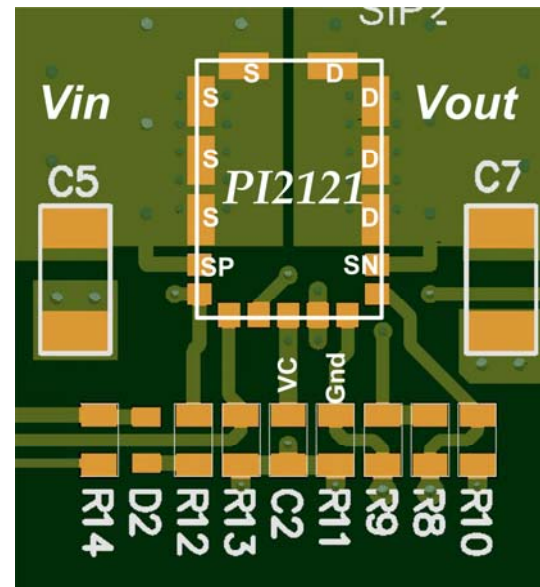

Figure 24: PI2121 layout recommendation
Use the following general guidelines when designing printed circuit boards. An example of the typical land pattern for the PI2121 is shown in Figure 24:
- Connect the SP pin to the S pins and connect the SN pin to D pins as shown in Figure 24.
- The VC bypass capacitor should be located as close as possible to the VC and GND pins. Place the PI2121 and bypass capacitor on the same layer of the board. The VC pin and  $C_{VC}$  (shown as C2 in Figure 24) PCB trace should not contain any vias or connect to the ground plane close to the GND pin.
will produce a high voltage across the MOSFET. If it is not possible to connect the power source and S pins with a very short trace or common point, connect a capacitor (shown as C5 in figure 24), recommended value  $1\mu\text{F}$ , close to the S pins and return (ground). Also for the same reason use C7 in figure 24 at the output.